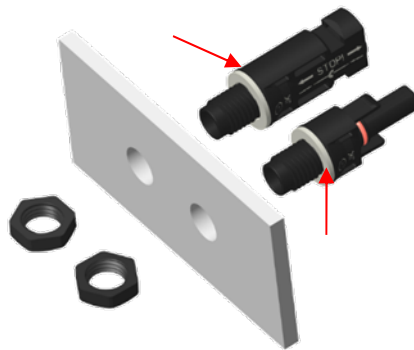

Figure 15
- ✧ 在公/母面板连接器插入钻孔前，请确保已安装防水垫圈，且防水垫圈安装在墙板的外侧 (如图 15)。
In mounting position, the seal gasket must lie even on the outside of the mounting surface (Fig.15).